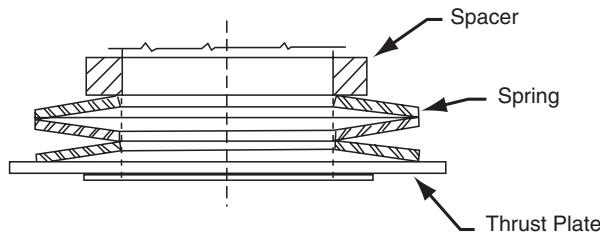

Figure 12
2. Stack springs on thrust plate and rotor as shown in Figure 12.
3. Place spacer provided with the spring pack in position on clutch as shown in Figure 12.
2. Lubricate disc springs and stack the springs against the thrust plate as shown in Figure 12.
3. Stack spacer on top of disc springs as shown in Figure 12.